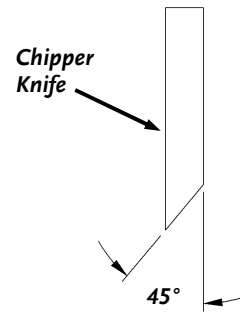

Figure 38
- It is extremely important to consistently maintain the 45-degree angle for proper performance (**Figure 38**).